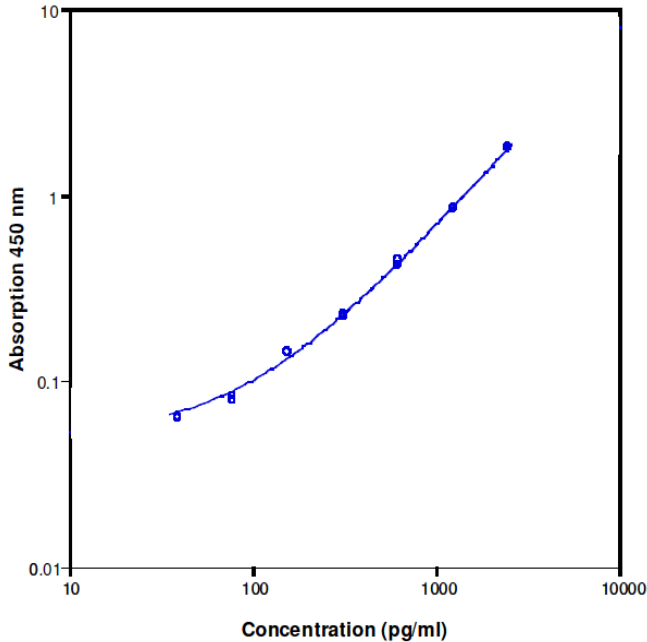

Fig. 8 Representative standard curve for Mouse IL-10 ELISA. Mouse IL-10 was diluted in serial 2-fold steps in Sample Diluent.
- A representative standard curve is shown in Figure 8.